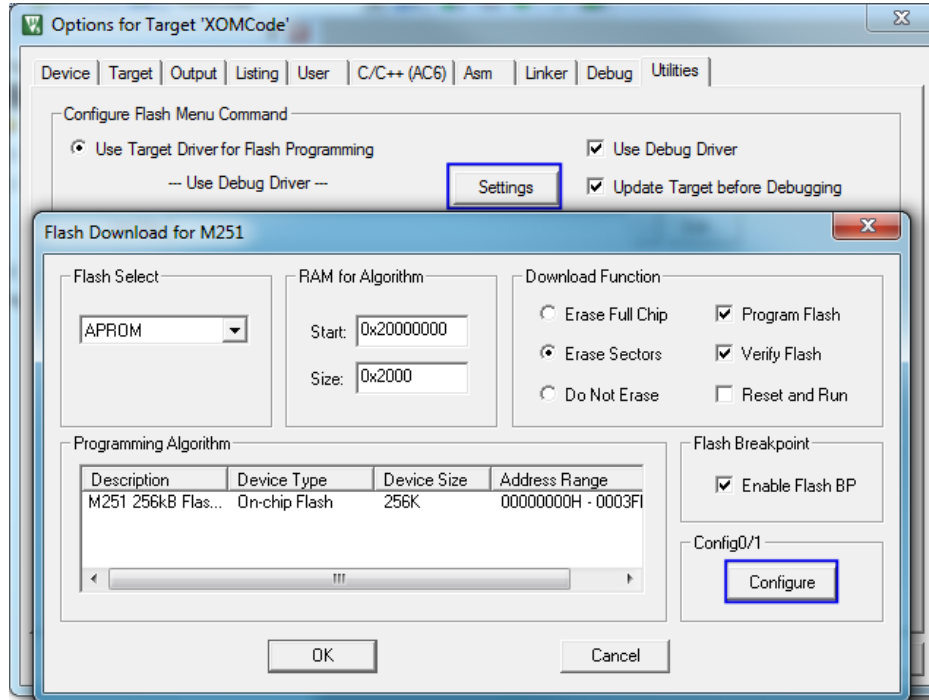

Figure 3-3 M251 Settings
- Click “**Option**”->“**Utilities**”->“**Settings**” button to enter *Flash Download* page. Click the “**Setting**” button in the “**Chip Setting**” to enter the “*M251 Settings*” page, as shown in Figure 3-3.